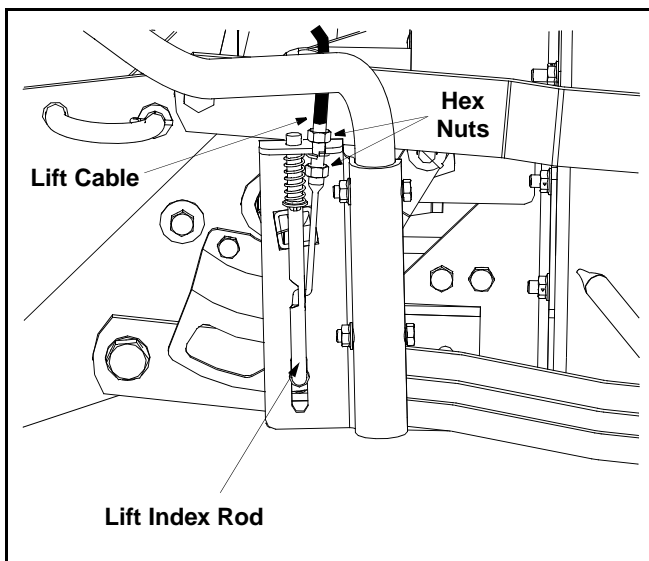

Figure 22
- Loosen the upper hex nut a few turns, then tighten the lower hex nut to shorten the cable length. See Figure 22.
- Loosen the lower hex nut a few turns, then tighten the upper hex nut to lengthen the cable. See Figure 22.